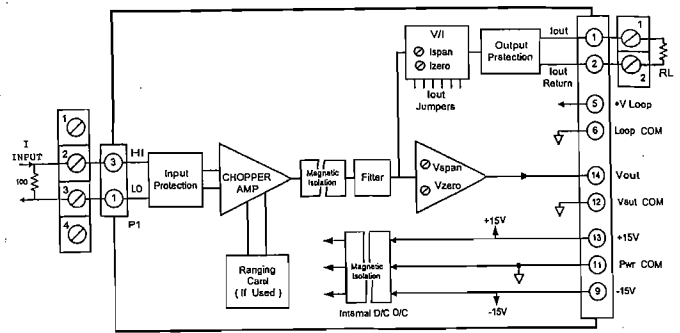

Figure 2.1.2.1 3B32 Functional Block Diagram
1. Connect model 3B12 (3B32) as shown in Figure 2.1.2.1 with  $R_L = 250\Omega$ .